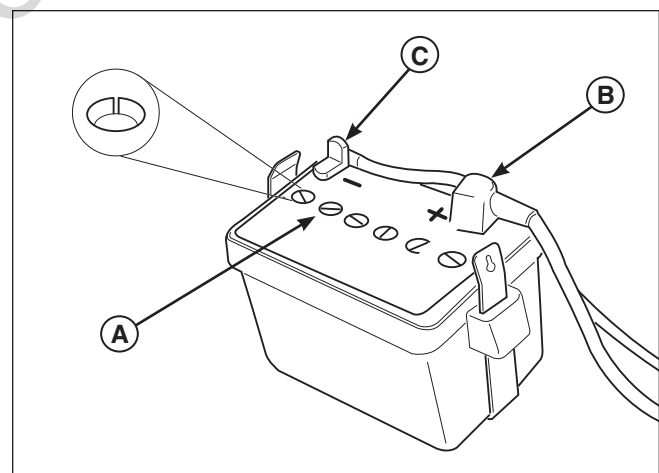

Figure 7. Battery Compartment
2. Remove the battery filler cap (**A, Figure 7**). Fluid must be even with the split ring full mark. If not, add distilled water.